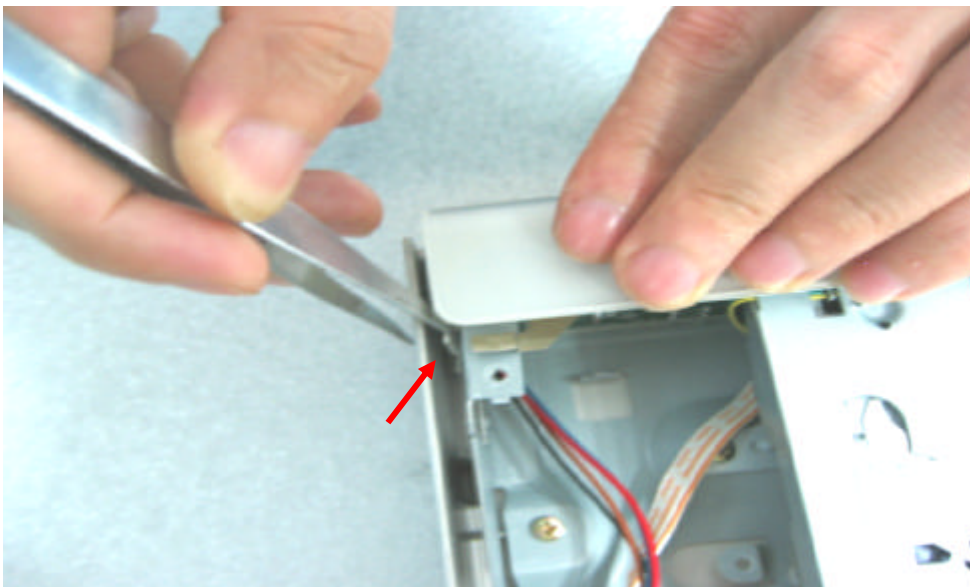

Figure 5
**Step5:** Use a small flat tip screw driver to release the snaps on the Front Panel and gently pull the Panel out from the set. (Figure 5)